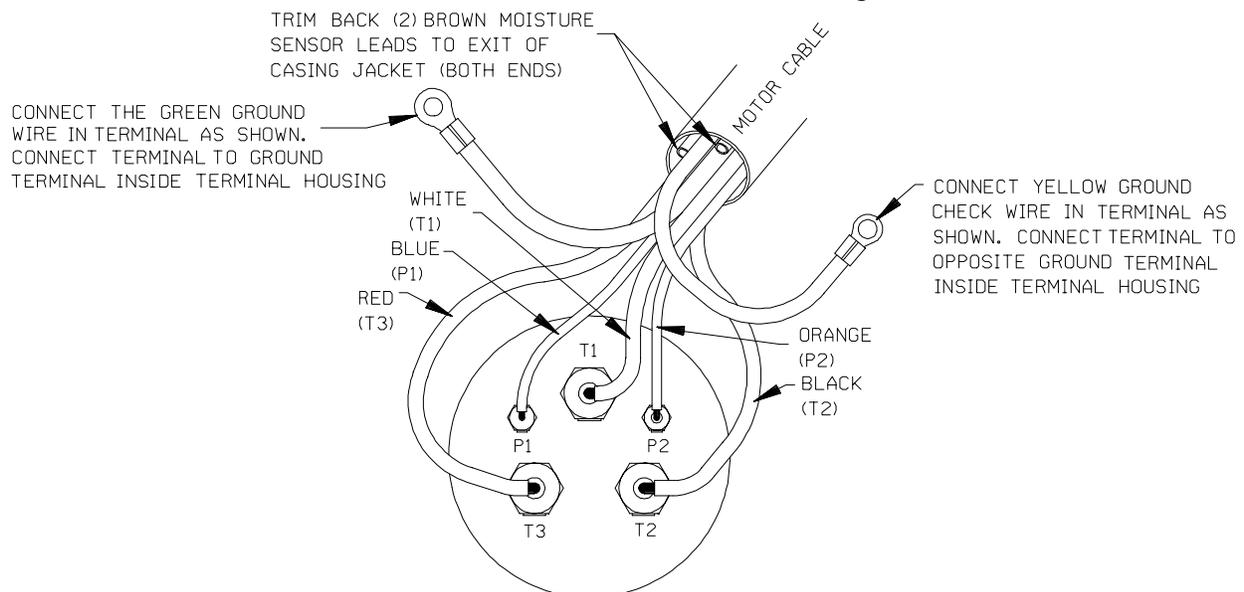

Figure C-6. Terminal Housing Wiring Connections
Slide a length of heat-shrink tubing up over each of the power cable leads. Insert the standard power cable leads into the large terminal collars (26), and secure them with the setscrews (27). Insert the two control leads into the small terminal collars (14) and secure them with the setscrews (13). See Figure C-6 for wiring connections.
See Figure C-6 and check terminal locations. Apply a 1/4 to 3/8 in. (6,4 to 9,7 mm) thick layer (maxi-